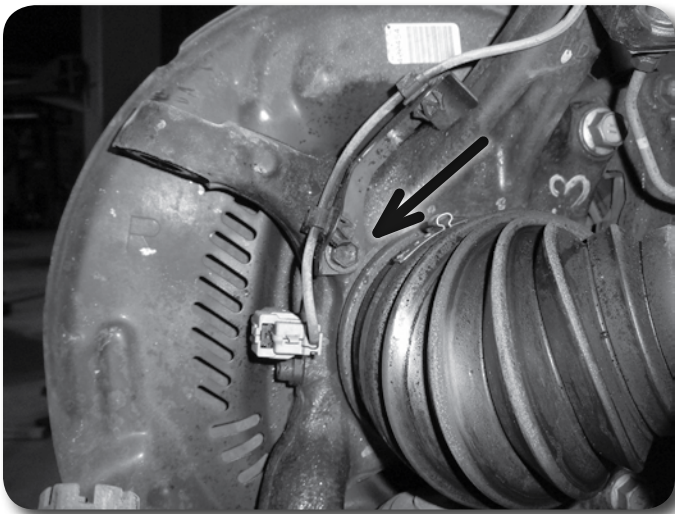

Figure 6A
9. Disconnect the brake line brackets **Figures 6A, B** from the steering knuckles (2 per knuckle). Save hardware.